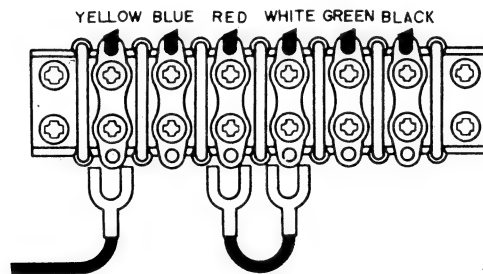

Figure 2. Voltage Conversion Chart
- (3) Change the jumper wires as illustrated in Fig. 2. for the required AC voltage and replace the fuse as instructed.